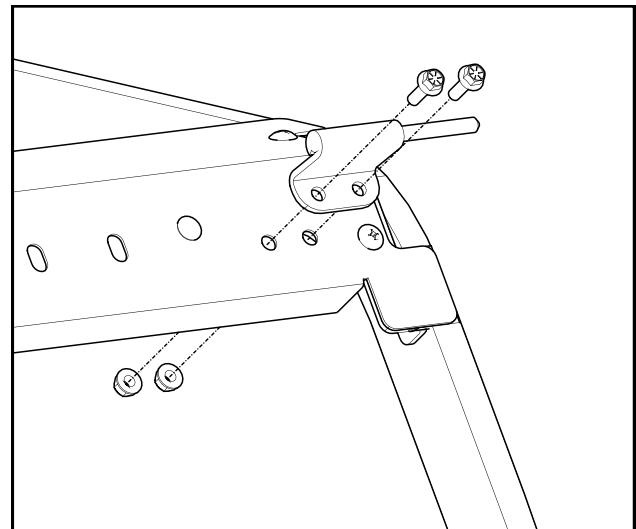

Fig. 7.2 (Windshield Support)
7.2 Install left side roof hinge pin as shown in Fig 7.2. Snug up the bolts. *Note: The right side roof hinge pin will be installed during roof installation at step 14.*